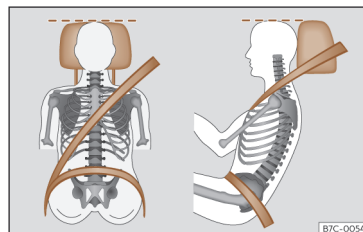

Fig. 14 Correct belt web and headrest positions
your head and under no circumstances below eye level¹⁾. Keep the back of your neck as close as possible to the headrest >>> **Fig. 14.**
- Adjust the seat lengthwise so that you can fully step on the pedals with your knees slightly bent and there is a distance between the knee area and the instrument panel of at least 10 cm (4 inches) >>> **Fig. 14.**